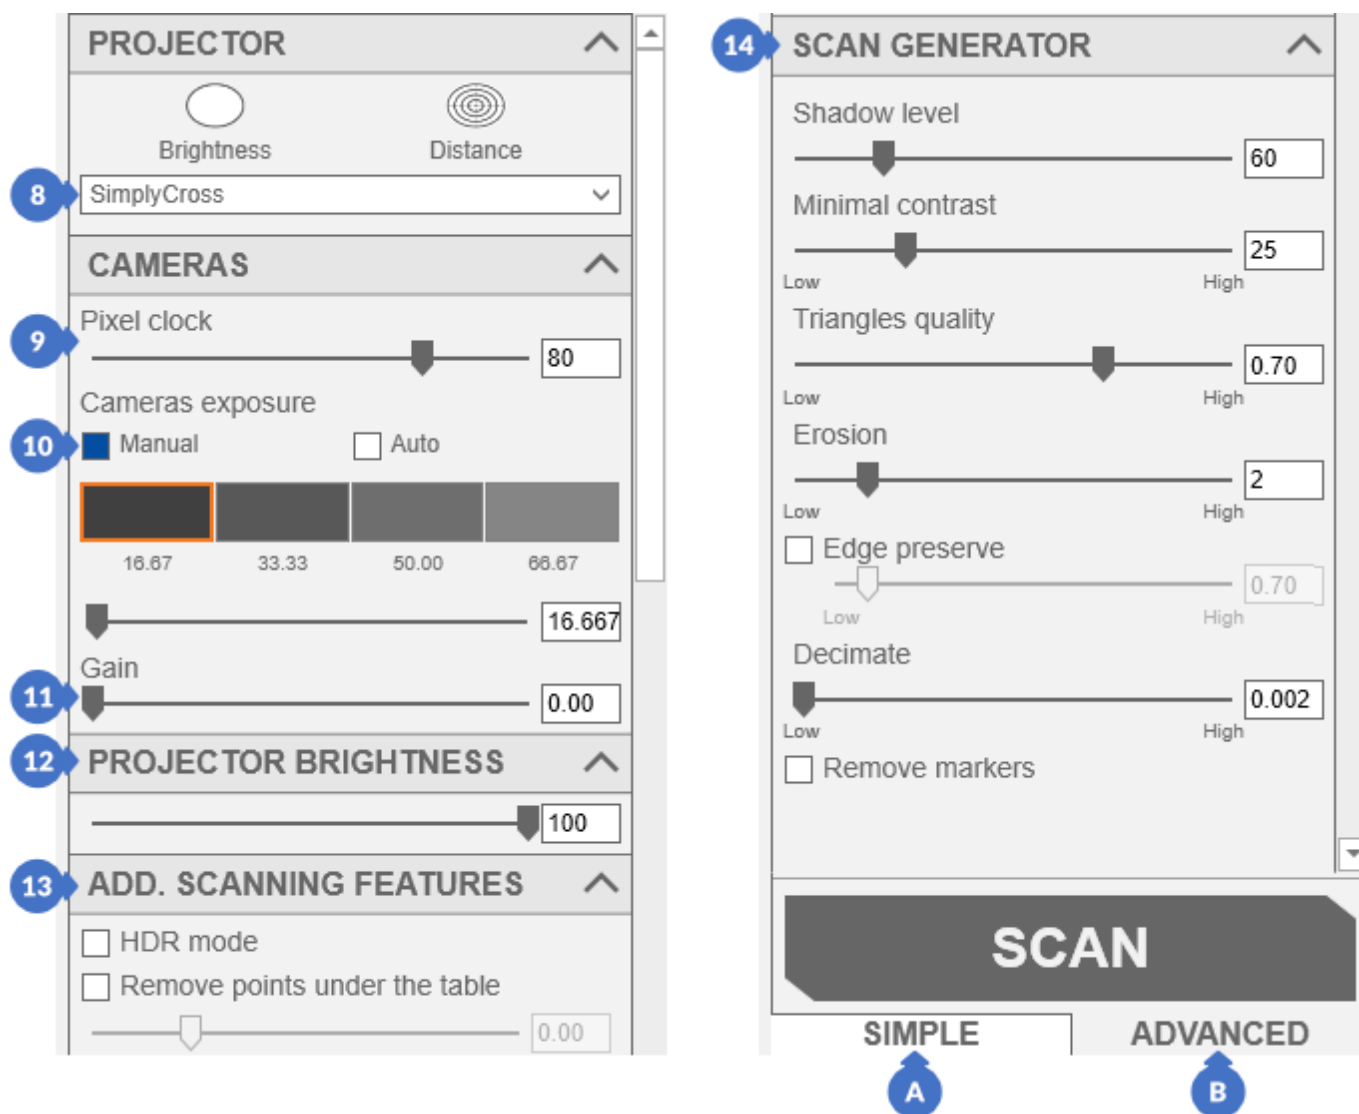

Figure 274. ADVANCED mode for scanning with markers
The following parameters can be found in *ADVANCED* (B) mode for advanced users (Figure 274):
- (8) – extensive selection of projector patterns (*PROJECTOR*),
- (9) – *Pixel clock* settings on cameras (*CAMERAS*),
■ *More information about Pixel clock can be found in Subsection 5.1.1.1 point (3).*
- (10) – selecting the mode for setting the exposure on cameras (*CAMERAS*) between the default automatic (*Auto*) and manual (*Manual*)
- (11) – *GAIN* parameter – is used for digital amplification of the signal from the camera sensor to brighten the photos